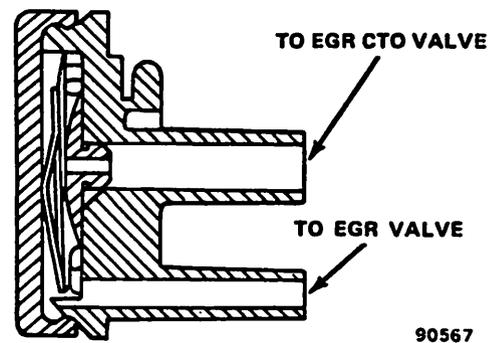

Fig. 1J-143 Thermal Vacuum Switch (TVS)
The Thermal Vacuum Switch (TVS) is located in the air cleaner and functions as an **On-Off** switch controlled by air cleaner air temperature (fig. 1J-143). The TVS controls the vacuum passage between the EGR CTO Valve and the EGR Valve. At air temperatures below 40° to 50°F (4.4° to 10°C), the TVS limits the vacuum applied to the EGR valve and, by doing so, prevents EGR operation. This improves cold engine driveability.
- (2) Disconnect vacuum hoses from TVS and connect external vacuum source to one nipple and vacuum gauge to other nipple (fig. 1J-143).
(3) Apply vacuum to TVS. Vacuum should not be indicated on gauge through TVS when air temperature is below 40° to 50°F (4.4° to 10°C). If vacuum is indicated through TVS, replace it.
(4) Start engine and warm air cleaner air above 50°F (10°C). Vacuum should be indicated on gauge through TVS when air temperature exceeds 50°F (10°C). If vacuum is not indicated on gauge through TVS, replace it.